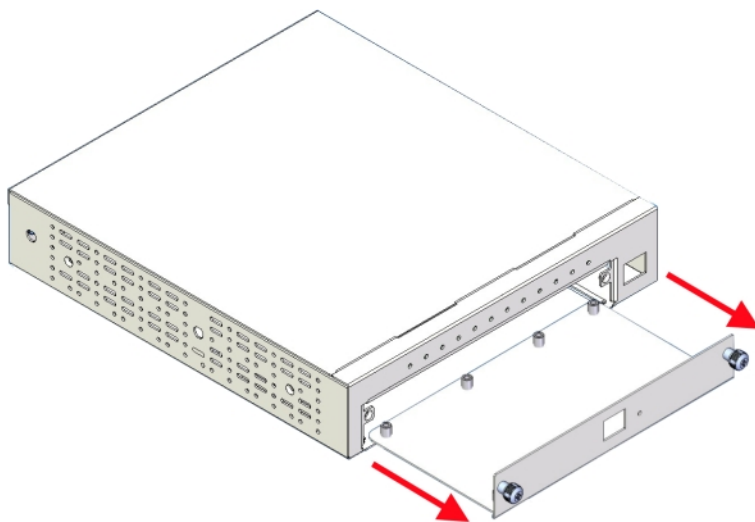

Fig. 7: Removing the tray from the slot
- (4) Remove the screws and gently pull the tray out of the slot. Please see Fig. 7 on page 9.